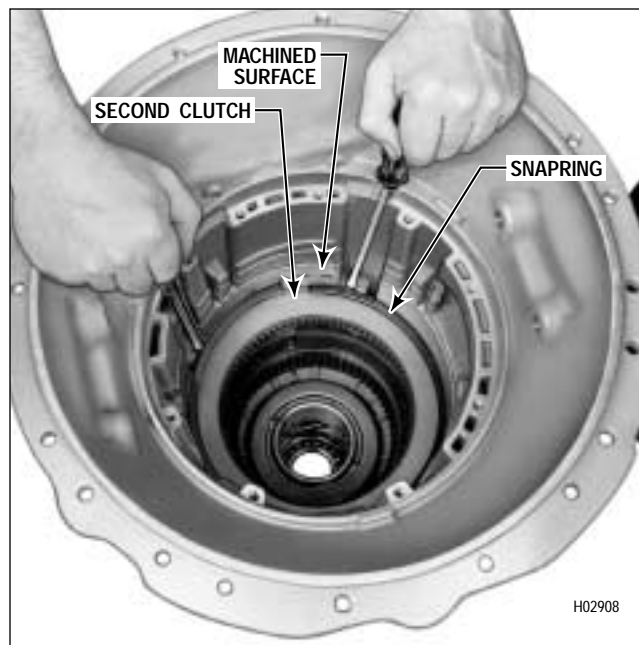

Figure 5-21. Removing Second Clutch Snapping
(1) Remove the snapping that retains the second clutch (Figure 5-21).
(2) Remove three external-tanged and three internal-splined second clutch plates (Figure 5-21).